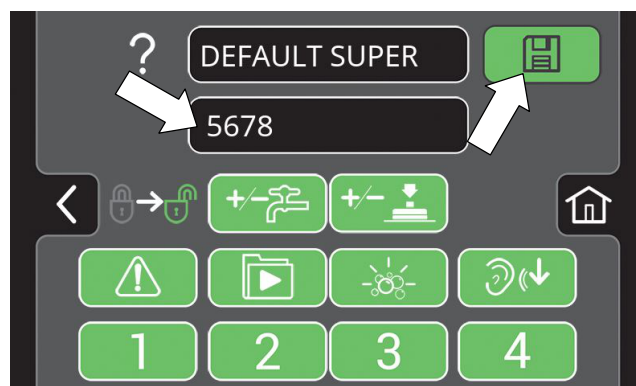

FIG. 192
5. Press the factory-assigned login code and enter a new login code (Figure 192). Press the flashing save button to save the new login code.